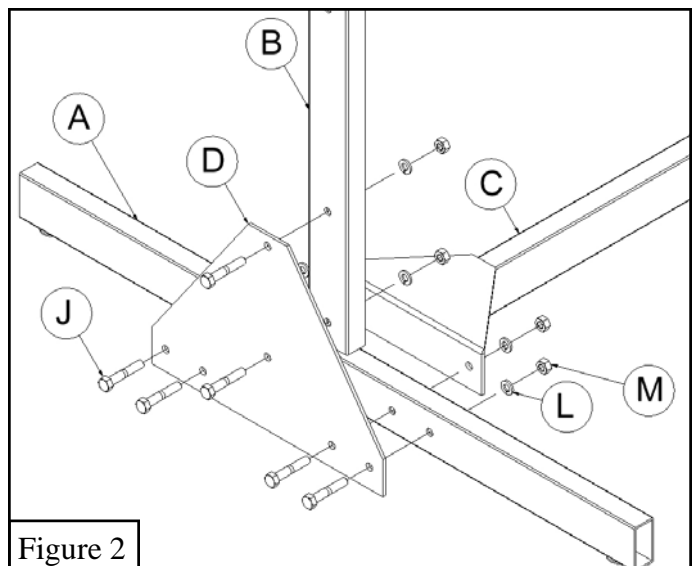

Figure 2
2. Using the *5/16 X 2" Hex Bolts (J)*, *5/16" Lock Washers (L)*, and the *5/16" Hex Nuts (M)* bolt together the *Wheel Tubes (A)*, *Uprights (B)*, *Stabilizer (C)*, and *T-Plates (D)*. See Figure 2.